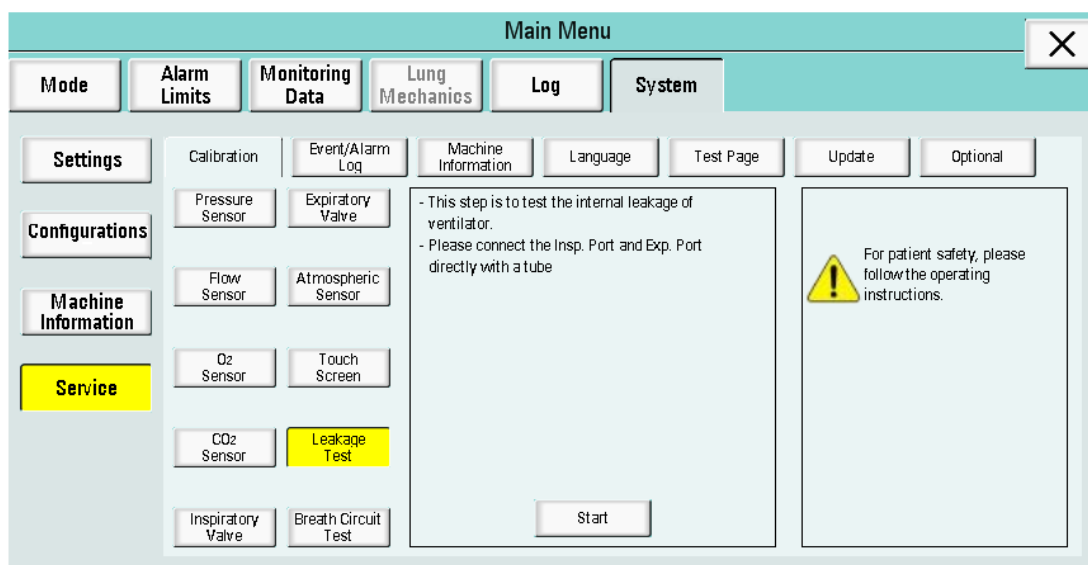

Figure 6-67
(8) Leakage Test Calibration: Click “Leakage Test” to enter the test interface. A message is displayed: “This step is to test the internal leakage of ventilator. Please connect the Insp. Port and Exp. Port directly with a tube”, as shown in Figure 6-67.